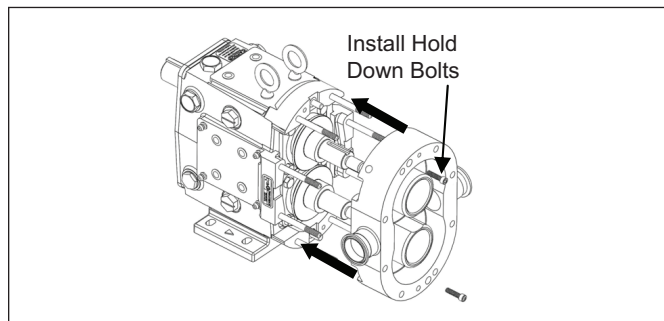

Figure 57. Installing Pump Body
1. Make sure all seal components are installed by following “Seal Maintenance” instructions provided on *page 24*. Ensure all dowels are in place and that all parts including body, rotors, and rotor nuts are clean and free of foreign matter. Slowly slide the body over the gear case studs and shafts, ensuring the seals are kept in place and not damaged (*Figure 57*). Install the two hold-down bolts and tighten the body against the gear case to ensure the dowels are engaged. Rotate the shafts to make sure there is no interference with the seals.